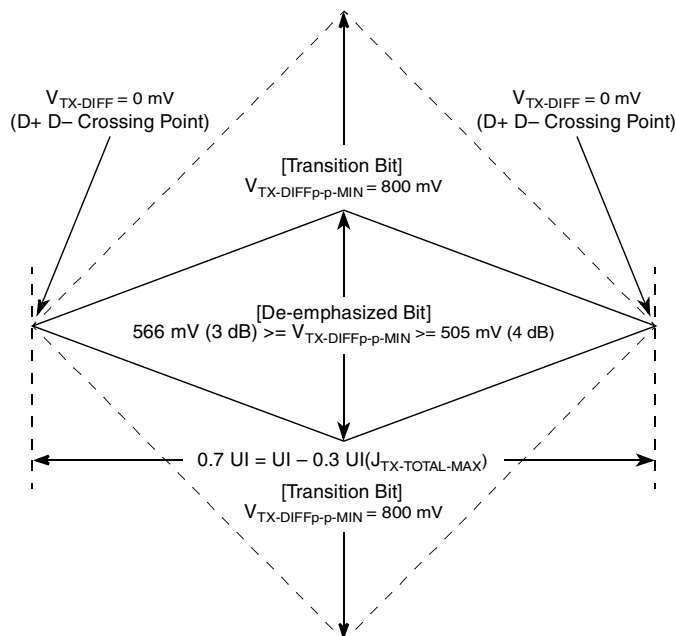
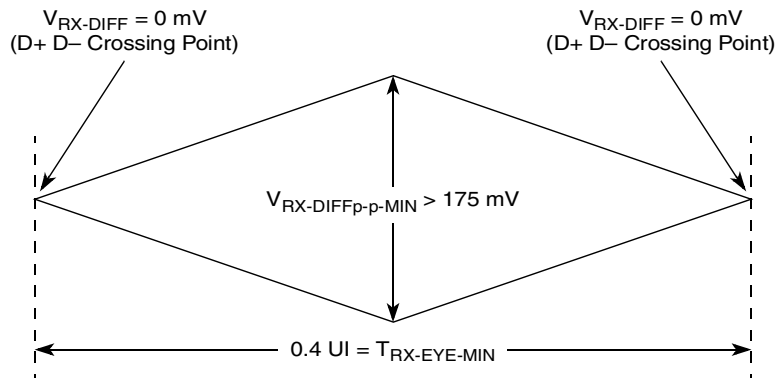
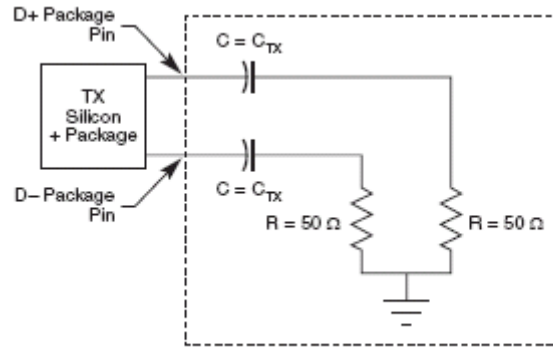

Figure 50. Minimum Transmitter Timing and Voltage Output Compliance Specifications
Figure 51. Minimum Receiver Eye Timing and Voltage Compliance Specification
Figure 52. Compliance Test/Measurement Load
2. Specified at the measurement point into a timing and voltage compliance test load as shown in Figure 52 and measured over any 250 consecutive TX UIs. (Also refer to the transmitter compliance eye diagram shown in Figure 50.)
4. The transmitter input impedance shall result in a differential return loss greater than or equal to 12 dB and a common mode return loss greater than or equal to 6 dB over a frequency range of 50 MHz to 1.25 GHz. This input impedance requirement applies to all valid input levels. The reference impedance for return loss measurements is 50 Ω to ground for both the D+ and D- line (that is, as measured by a vector network analyzer with 50- Ω probes, see Figure 52). Note that the series capacitors, C_{TX} , is optional for the return loss measurement.
5. Measured between 20%–80% at transmitter package pins into a test load as shown in Figure 52 for both $V_{\text{TX-D+}}$ and $V_{\text{TX-D-}}$.
The TX eye diagram in Figure 50 is specified using the passive compliance/test measurement load (see Figure 52) in place of any real PCI Express interconnect + RX component. There are two eye diagrams that must be met for the transmitter. Both diagrams must be aligned in time using the jitter median to locate the center of the eye diagram. The different eye diagrams differ in voltage depending on whether it is a transition bit or a de-emphasized bit. The exact reduced voltage level of the de-emphasized bit is always relative to the transition bit.
2. Specified at the measurement point and measured over any 250 consecutive UIs. The test load in Figure 52 should be used as the RX device when taking measurements (also refer to the receiver compliance eye diagram shown in Figure 51). If the clocks to the RX and TX are not derived from the same reference clock, the TX UI recovered from 3500 consecutive UI must be used as a reference for the eye diagram.
4. The receiver input impedance shall result in a differential return loss greater than or equal to 15 dB with the D+ line biased to 300 mV and the D– line biased to –300 mV and a common mode return loss greater than or equal to 6 dB (no bias required) over a frequency range of 50 MHz to 1.25 GHz. This input impedance requirement applies to all valid input levels. The reference impedance for return loss measurements for is 50 Ω to ground for both the D+ and D– line (that is, as measured by a vector network analyzer with 50- Ω probes, see Figure 52). Note that the series capacitors, C_{TX} , is optional for the return loss measurement.
The RX eye diagram in Figure 51 is specified using the passive compliance/test measurement load (see Figure 52) in place of any real PCI Express RX component. In general, the minimum receiver eye diagram measured with the compliance/test measurement load (see Figure 52) is larger than the minimum receiver eye diagram measured over a range of systems at the input receiver of any real PCI Express component. The degraded eye diagram at the input Receiver is due to traces internal to the package as well as silicon parasitic characteristics which cause the real PCI Express component to vary in impedance from the compliance/test measurement load. The input receiver eye diagram is implementation specific and is not specified. RX component designer should provide additional margin to adequately compensate for the degraded minimum Receiver eye diagram (shown in Figure 51) expected at the input receiver based on an adequate combination of system simulations and the return loss measured looking into the RX package
The reference impedance for return loss measurements is 50. to ground for both the D+ and D- line (that is, as measured by a Vector Network Analyzer with 50. probes—see Figure 52). Note that the series capacitors, $C_{PEACCTX}$, are optional for the return loss measurement.
The AC timing and voltage parameters must be verified at the measurement point, as specified within 0.2 inches of the package pins, into a test/measurement load shown in Figure 52.